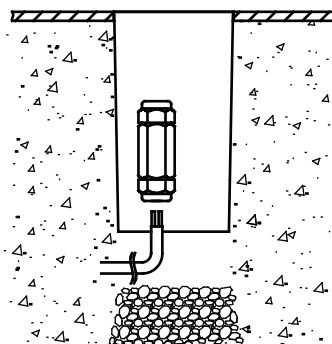

Fig 2.2
2.2 Connect the 12V supply cable via waterproof junction box or connector. (See Fig 2.2)